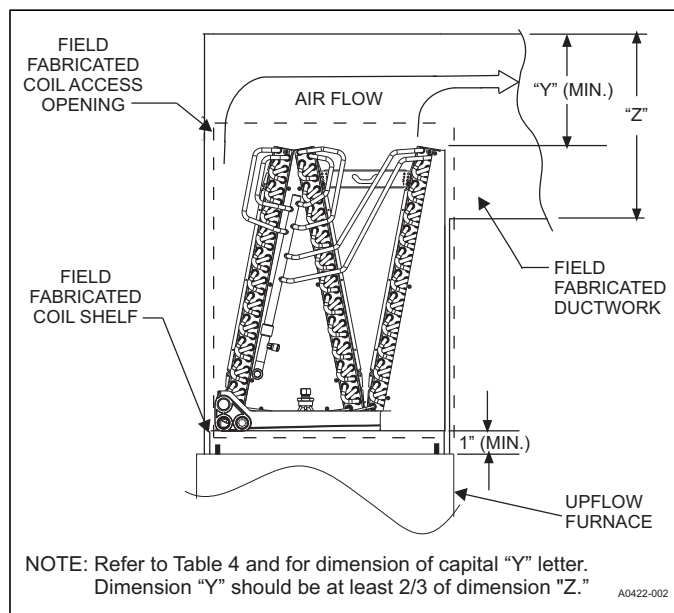

FIGURE 10: Upflow Coil Installation
2. Fabricate the duct work to house the coil in accordance with Figures 10 and 11.
Dimension "Y" should be at least 2/3 of dimension "Z". Refer to Figure 10.
8. Install coil through plenum opening, and position coil onto coil shelf over furnace opening as shown in Figure 10. If using a TXV, the bulb capillary tube must pass through the suction line opening, but do not attach bulb to suction line until after brazing is completed and piping is cooled.